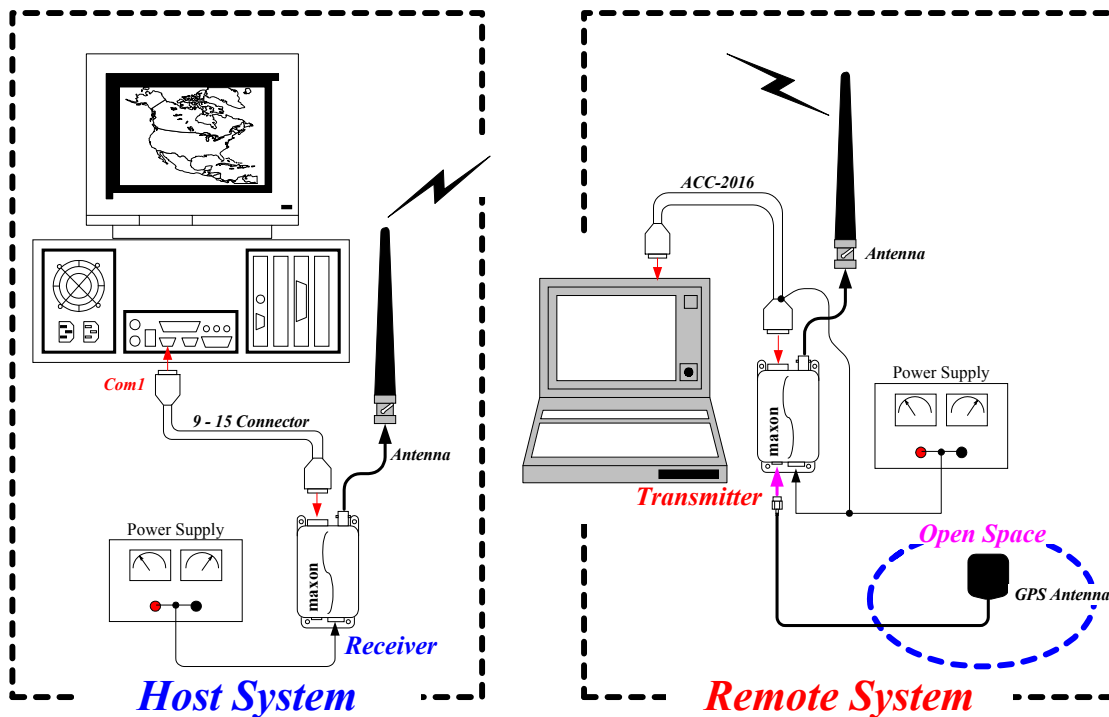

Figure 5.12. Constitution of hardware for Manual control mode
1. Setup hardware like Fig 5.12.
2. Execute “SD-160 GPS test” program on the DTE (PC) of host system. That’s connected with receiver through communication port 1 (COM1).